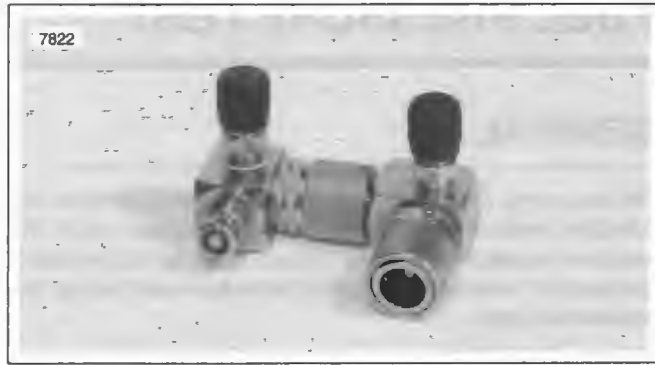

Figure 4-53. Fuel Pressure Gauge Adapters
- a. See Figure 4-53. Install a second adapter in series with the first.
6. See Figure 4-53. Remove protective cap from free end of fuel pressure gauge adapter. Connect fuel pressure gauge to Schroeder valve.